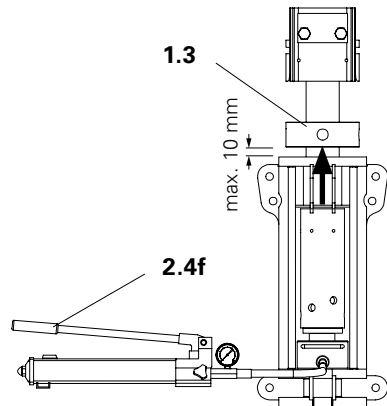

Fig. 25
5. Turn spindle nut (1.3) with Mounting Shaft VST clockwise by 10 mm. (Fig. 25)